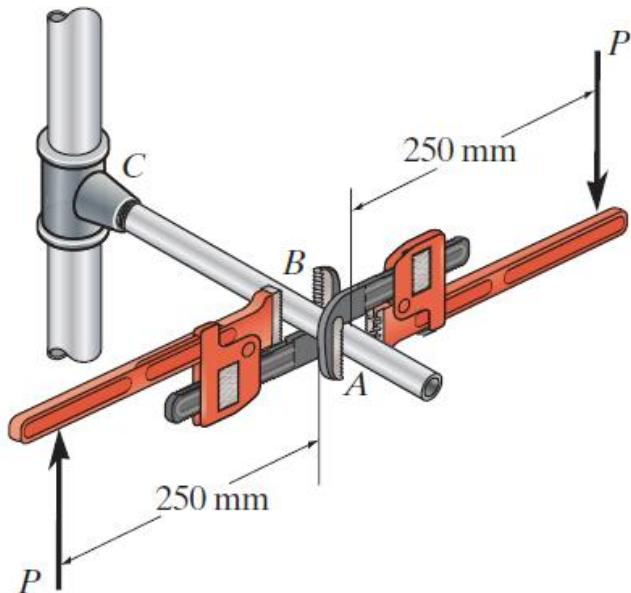

Fig.6b
b) Two wrenches are used to tighten the pipe as in fig 6b. If $P = 300 \text{ N}$ is applied to each wrench, determine the maximum torsional shear stress developed within region BC. The pipe has an outer diameter of 25 mm and inner diameter of 20 mm. Sketch the shear stress distribution